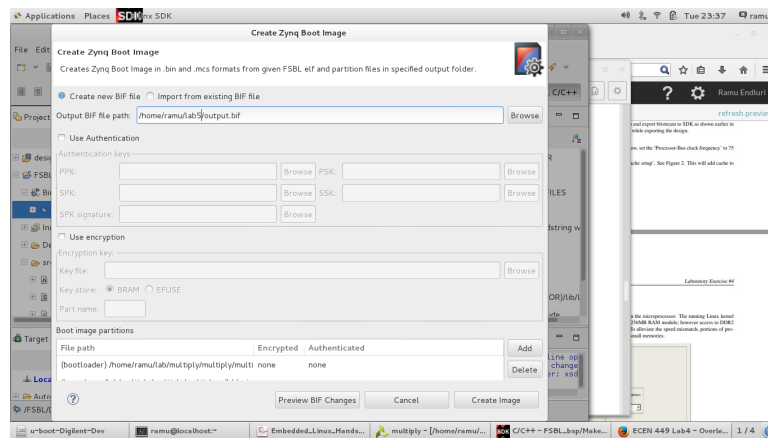

Figure 4: Zynq Boot Image
- (l) In the Create Zynq Boot Image window (as shown in Fig. 4), Click Browse to set the path for output.bif. Give the path to your lab4 directory.